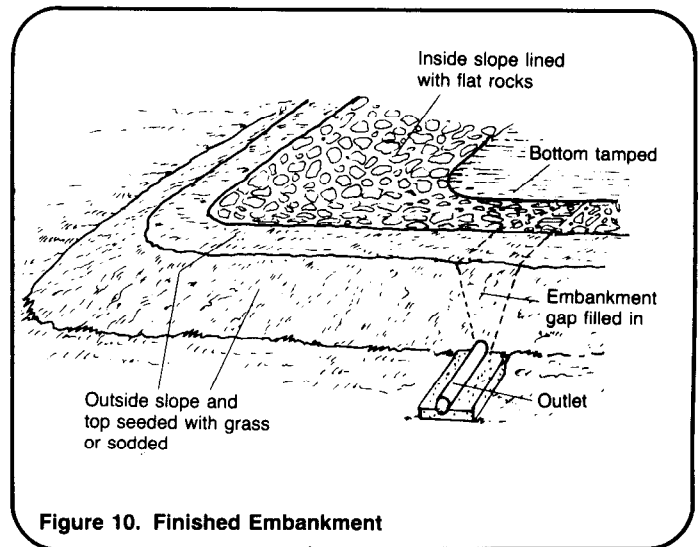

Figure 10. Finished Embankment
1. Fill in any gaps in the embankment that were used for laying pipe or removing excavated soil. Thoroughly tamp the top and slopes and make them uniform with the existing embankment. See Figure 10.
3. If topsoil or sod was initially removed from the site, use it now to cover the outside slope and top of the embankment. If no sod is available, plant grass seed. This will help prevent erosion of the embankment from wind and rain. See Figure 10.